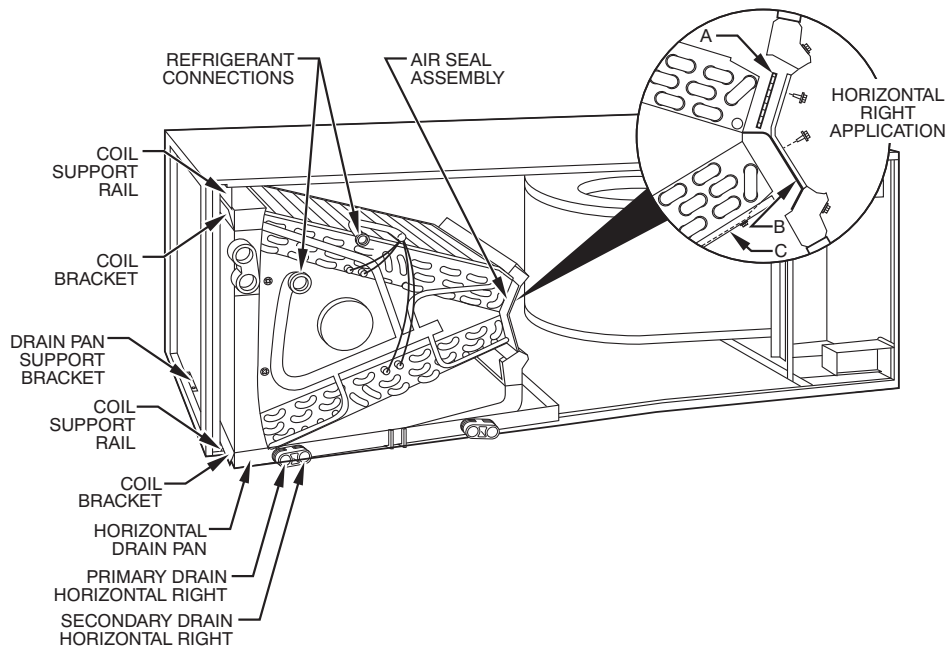

Fig. 5 – Conversion for Horizontal Right Applications - A-Coil
1. Remove blower and coil access panels and fitting panel (Fig. 5).
1. Remove blower and coil access panels (Fig. 5).
- a. Remove air seal assembly from coil by removing 4 screws (Fig. 5).
- b. Remove air splitter (B) from coil seal assembly by removing 3 screws (Fig. 5 inset).
- c. Remove filler plate (A) and install air splitter (B) in place of filler plate.
- d. Install filler plate (A) as shown in horizontal right application.
- e. Remove condensate troughs (C) and install on opposite tube sheets.